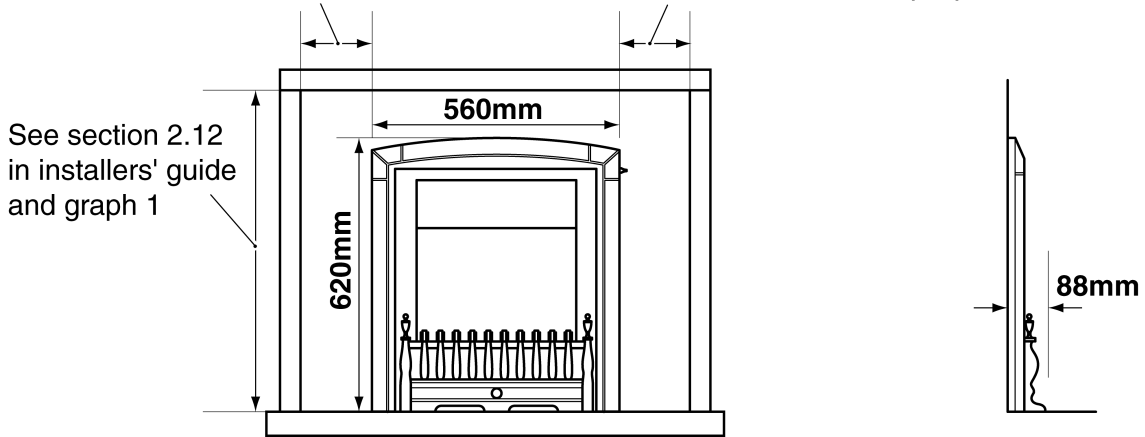

Figure 5 Continued. Appliance dimensions
**2.19** The minimum allowable distance from the outside of the appliance case to a corner wall having combustible material or any other combustible surface which projects beyond the front of the appliance is shown in figure 5. A 10mm access clearance from a non-combustible surface is necessary at the left side. See figure 5.